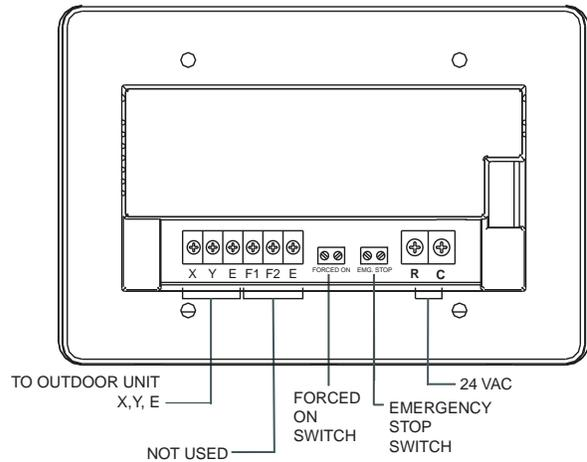

Fig. 4 — Central Controller Wiring
- Connect the control cable and power to the back of the controller and mount the controller back onto the mounting plate. See Fig. 4.